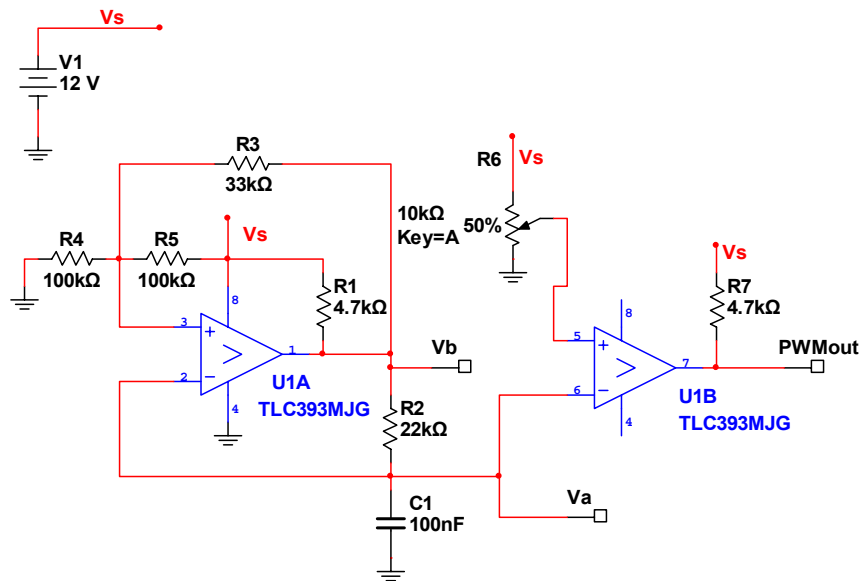
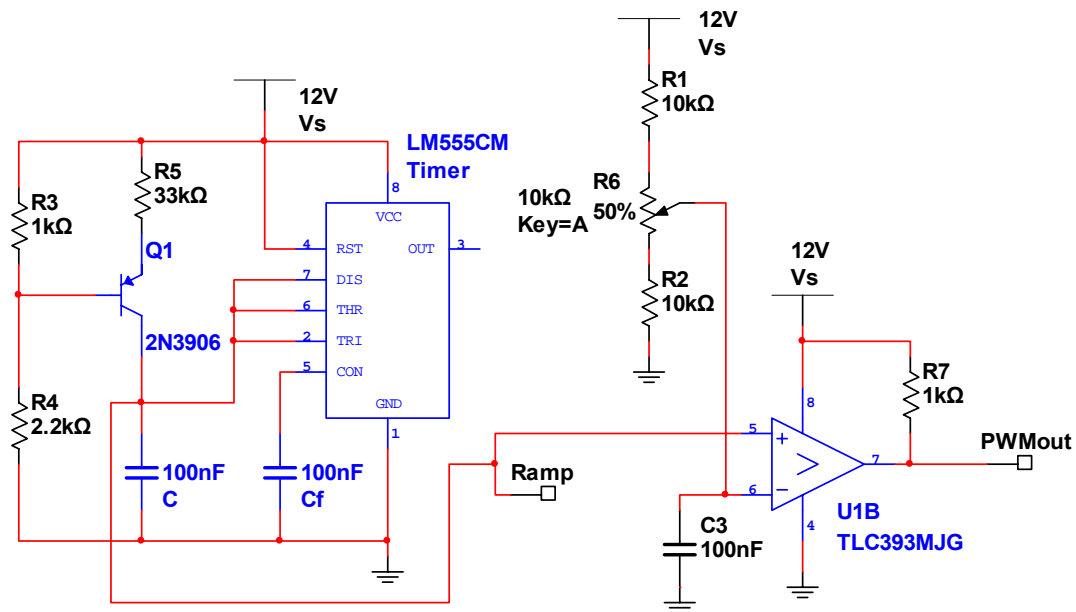

Figure 5-10 – Variable Duty-Cycle Oscillator.
Figure 5-14 – Improved 555-based PWM controller
We are now ready to understand and build the circuit in Figure 5-10. You will recognize the first stage as a relaxation oscillator of the type shown in Figure 5-9b. Here we have chosen component values to create an oscillator frequency in the range of 200-400Hz. The second stage is a basic vanilla-flavored comparator circuit, with a reference voltage set by a trimpot.
- First build the oscillator stage in Figure 5-10, and observe the waveforms on the two ports labeled Va and Vb. Can you understand the operation now?
Note: the schematic in Figure 5-10 is from a Multisim file that is posted on the website. Our lab circuits are now approaching a level of complexity that makes the simulation programs useful for preliminary testing and schematic generation.
- Construct the circuit in Figure 5-14. Note that the comparator stage is identical to that used in Figure 5-10, except for the pull-up resistor. More on that later
Note the 1k resistor R8; together with pull-up resistor R7 in Figure 5-14 forms a simple voltage divider that biases the gate at ~6V in the high-state of the comparator.